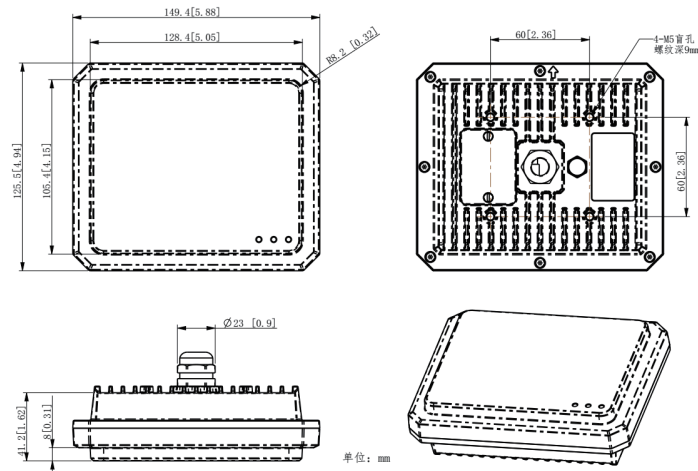

Fig. 2-2
- The following dimension figures are for reference only. Unit: mm. Fig2-2 is for SMWR01A